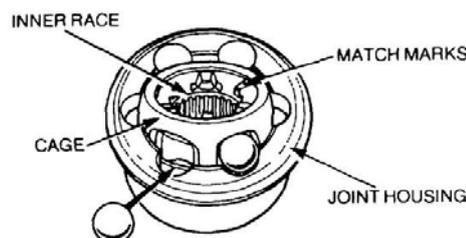

Figure 276 Removal of the Constant Velocity Joint Steel Balls
- c. To remove the steel balls, tilt and swivel the cage, then the inner race (Figure 276).
- Align the match marks made on the joint inner and outer race and the cage, tilt and swivel the cage to allow the steel balls to be inserted (Figure 276).